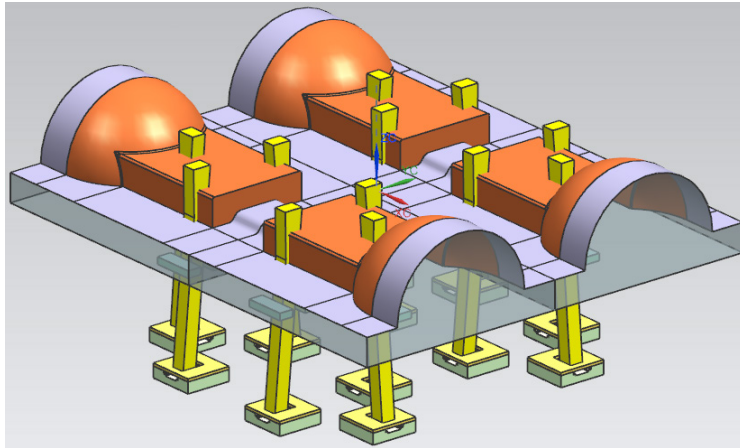

*Figure 15-111 The Move Component dialog box*
- Choose the **Reposition** button in the **Part** rollout, the **Move Component** dialog box is displayed, refer to Figure 15-111.